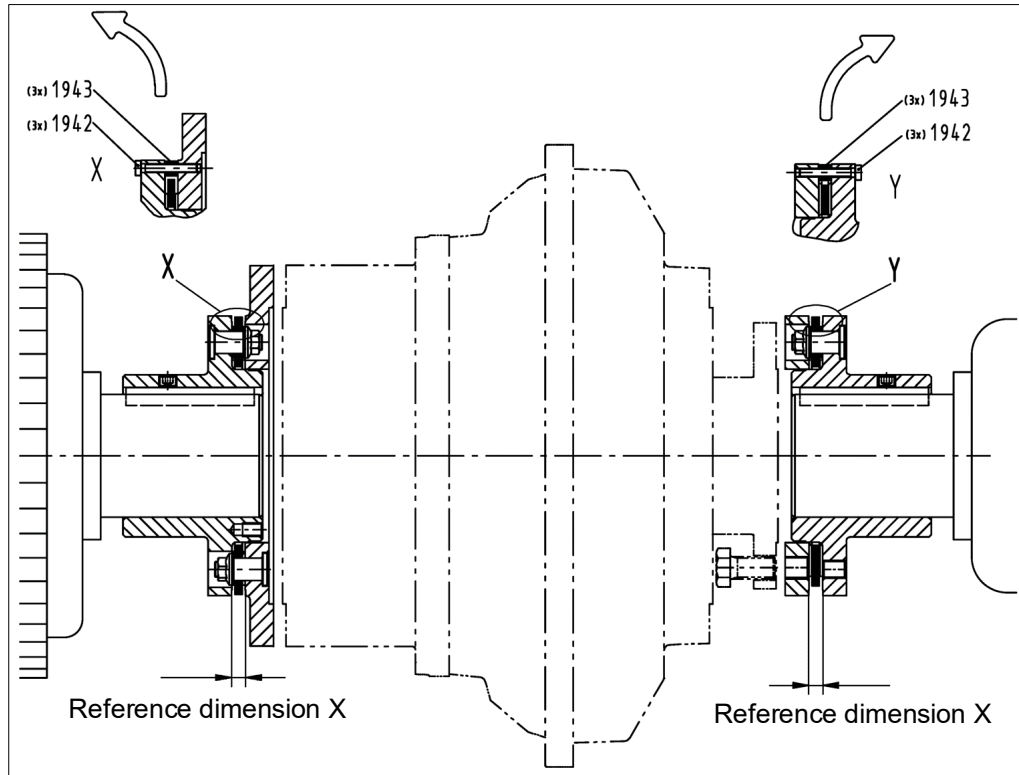
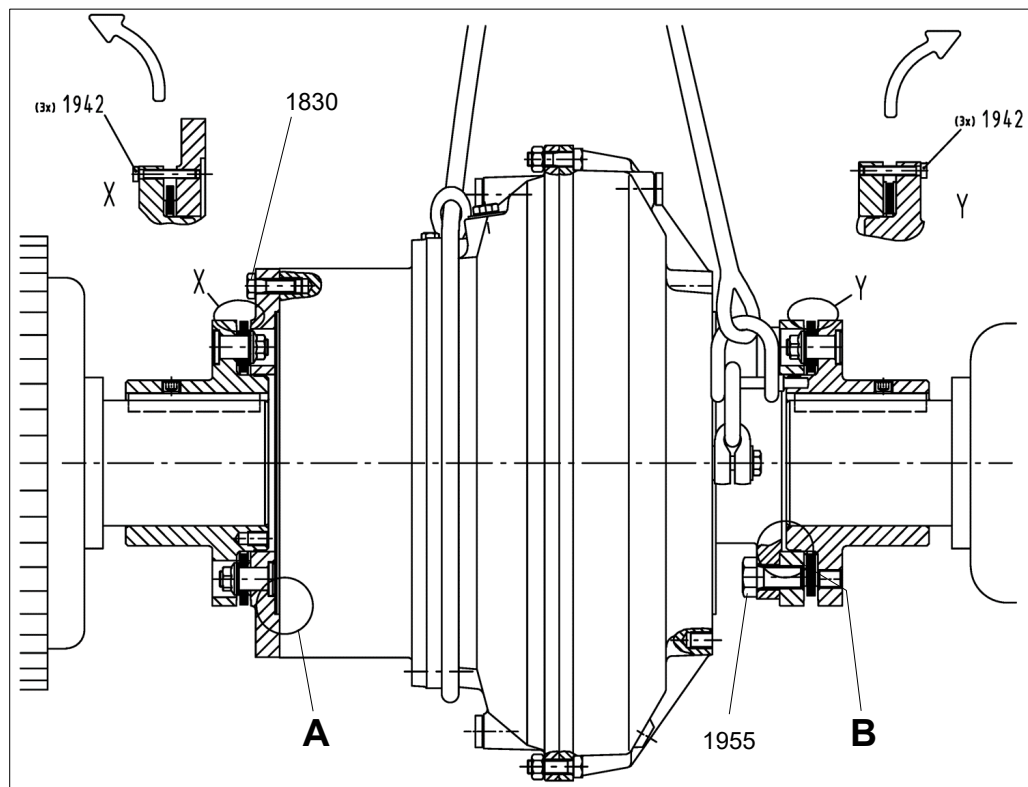
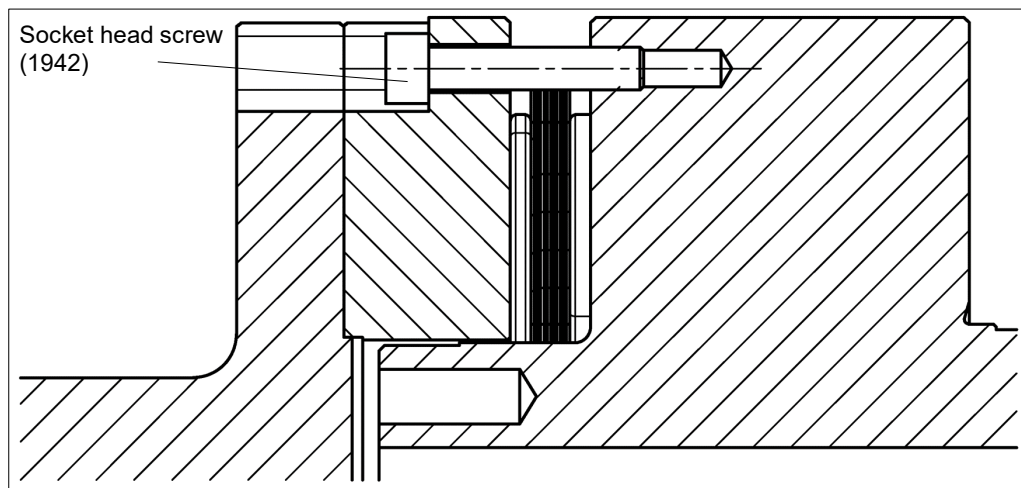

Fig. 32
Fig. 35
Fig. 37
- Remove the spacer sleeves of the transport protection (item 1943) (3x each on the input and output side) and keep them for later use.
- Uniformly pretension the disk packs by means of the socket head screws of the transport protection (item 1942) to the reference dimension X (→ Chapter 8.5.1, Table 8). There is sufficient space for radial installation by the axially pretensioned disk packs.
- If the GPK01 is designed with brake drum / brake disc, the mounting direction of item 1942 on the output side is not as shown on Fig. 32. It is illustrated in Fig. 37 and on the assembly plan.
- If the GPK01 is designed with brake drum / brake disc, the mounting direction of item 1942 on the output side is not as shown on Fig. 35. It is illustrated in Fig. 37 and on the assembly plan.